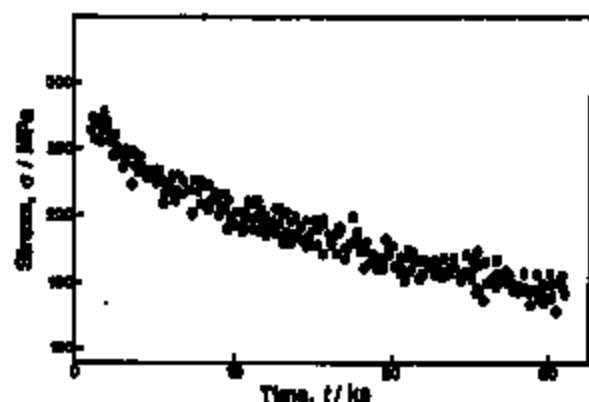

Fig. 5. Annealing-time dependence of compressive stresses for a Al-2at.%Ta alloy film held at 533 K.
Fig. 5 shows the change of film stress during isothermal annealing at 533 K as a function of annealing time. Con-
where  $E/(1-\nu)$  is the biaxial elastic modulus of the film and  $\Delta V$  is  $V_{\text{hillock}}/V_{\text{film}}$ . Using the value of  $E/(1-\nu) = 1.143 \times 10^9 \text{ Pa}$  for Al with a (111) orientation, the negative volume change by 0.2% results in a stress of about 76 MPa. In Fig. 5, the film stress dropped from about 270 MPa to about 200 MPa during the annealing for 10.4 ks, hence about 70 MPa was relieved. Therefore, it is reasonable that hillock formation is the dominant stress-relaxation mechanism.